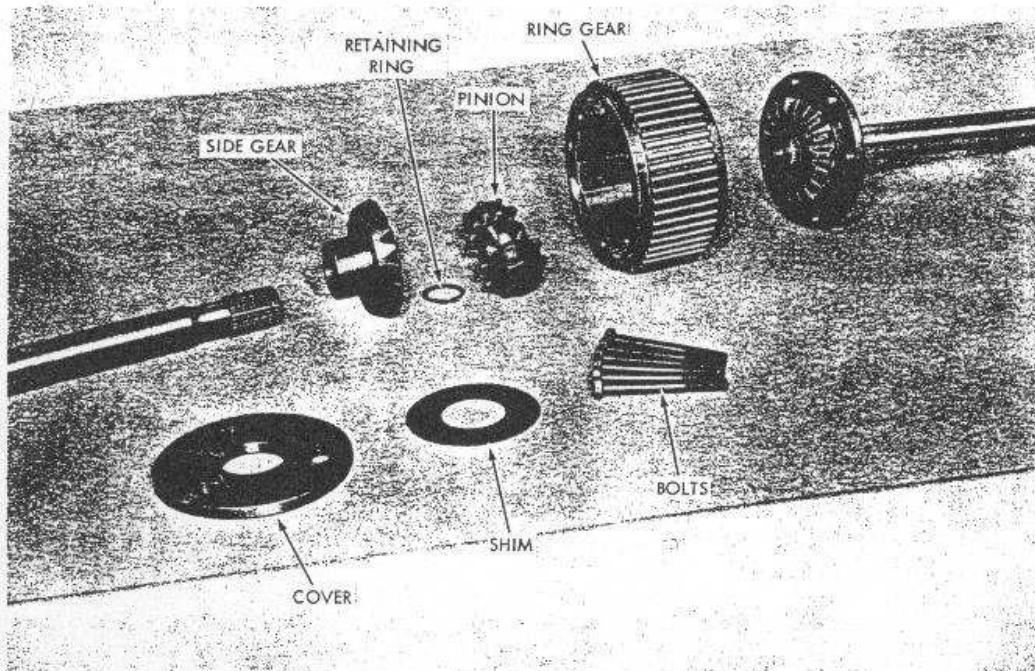

Figure 16
7. Remove six bolts (34) from the differential assembly. Tap either axle shaft lightly until either axle assembly (right or left) is separated from the ring gear (37) and remove remaining axle assembly (Fig. 16 and 17).
8. Remove floating pinion shaft, pinion gear and thrust washer (43, 41, 40) from ring gear (37) (Fig. 16 and 17).
9. Remove retaining ring (42) from axles, separate side gear, shim and cover (39, 38, 36 or 44) (Fig. 16 and 17).